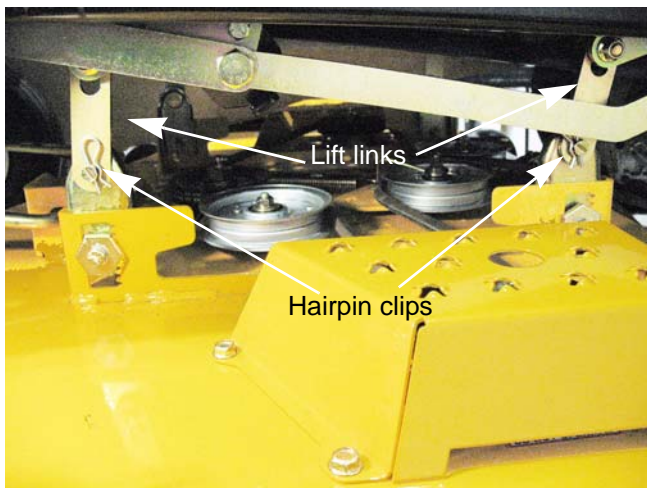

Figure 8.2
6. Pull the hairpin clips out of the four deck lift adjustment brackets. See Figure 8.2.